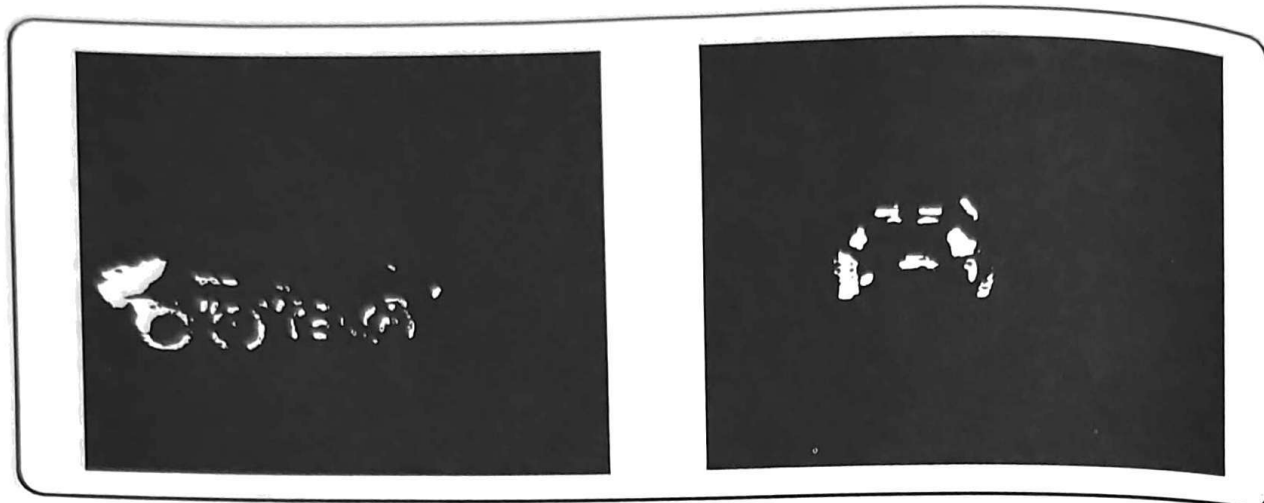

Figure A-7. BTR-60 armored personnel carrier.
g. BTR-60 Armored Personnel Carrier (Figure A-7).
(1) Classification: